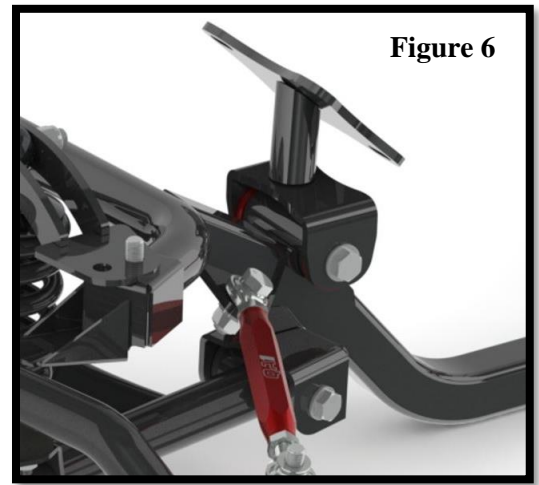

Figure 6
4. Secure the clevis end of the engine mount to the bushing can of the k-member using the included 1/2" x 5" bolts with two washers and one nyloc nut per mount. **(Figure 6)**